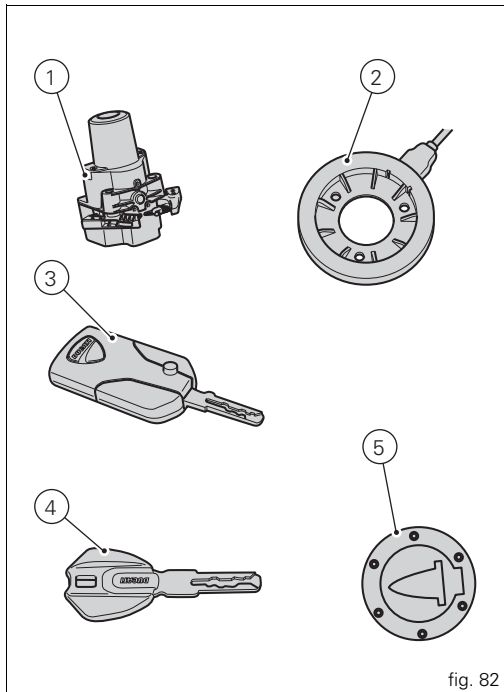
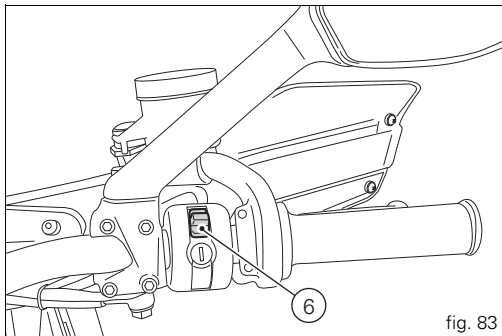
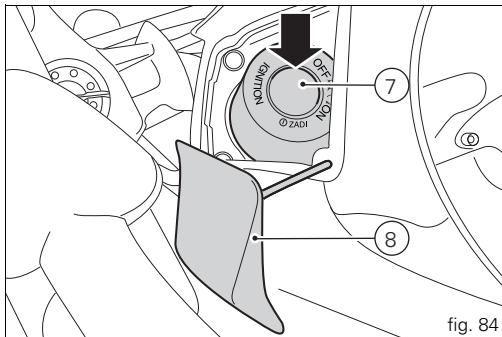

fig. 82
fig. 83
fig. 84
The "Hands free" lock (1, fig. 82) is located on the front of the tank. The door must be removed to access it (8, fig. 84).
In the USA version the door (8, fig. 84) is not present.
Key-Off consists in turning off the hands free system and all electronic devices, and makes sure the engine is turned off. Key-On is done using the button (6) on the handlebar on the right switch or using the emergency button (7) on the Hands free lock (1, fig. 82).
Key-Off is done using the button (6, fig. 83) on the handlebar on the right switch or using the emergency button (7) on the Hands free lock (1, fig. 82).
Key-On can only occur in the presence of one of the two keys (3, fig. 82) or (4, fig. 82) or using the pin code.
Key-Off can also occur without a key (3, fig. 82) or (4, fig. 82).
When the battery is discharged, the active key (3, fig. 82) acts like a passive key (4, fig. 82). The instrument panel displays the discharged battery status.
A Key-On can be performed by pressing the red key (6) on the handlebar in the HANDS FREE ON/OFF position and in the presence of the active key (3, fig. 82).
The active key (3, fig. 82) has a range of approx. 1.5 m, therefore it must be located within this range.
Key-Off can be performed by pressing the red key (6) on the handlebar in the HANDS FREE ON/OFF position. It can be done also without the key (3, fig. 82) only if the motorcycle speed is equal to zero.
Key-On can be performed by pressing the button (7) on the Hands free lock (1, fig. 82) and with the presence of the active key (3, fig. 82).
Key-Off can be performed by pressing the button (7) on the Hands free lock (1, fig. 82), also without the key (3, fig. 82).
A Key-On can be performed by pressing the red button (6) on the handlebar in the HANDS FREE ON/OFF position and in the presence of the passive key (4, fig. 82).
The passive key (4, fig. 82) has a range of a few cm, therefore the key (4, fig. 82) must be positioned near the antenna (2).
Key-Off can be performed by pressing the red button (6) on the handlebar in the HANDS FREE ON/OFF position. It can be done also without the key (4, fig. 82) only if the motorcycle speed is equal to zero.
Key-On can be performed by pressing the button (7) on the Hands free lock and with the presence of the passive key (4, fig. 82).
The passive key (4, fig. 82) has a range of a few cm, therefore the key (4, fig. 82) must be positioned near the antenna.
Key-Off can be performed by pressing the button (7) on the Hands free lock (1, fig. 82), also without the key (4, fig. 82).
Key-On can be performed by pressing the button (7) on the hands free lock (1, fig. 82) without the presence of the keys (3, fig. 82) and (4, fig. 82) and entering the pin code on the dashboard.